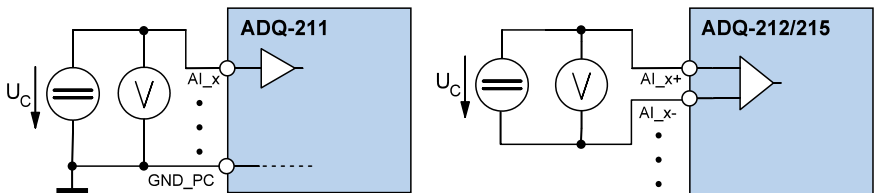

Figure 2: Wiring for calibration
3. Apply a constant voltage to one channel after the other and monitor the voltage by a high-precision voltmeter (e.g. multimeter). Make sure, that the voltmeter has a higher accuracy than the accuracy of your board. See also Figure 2.